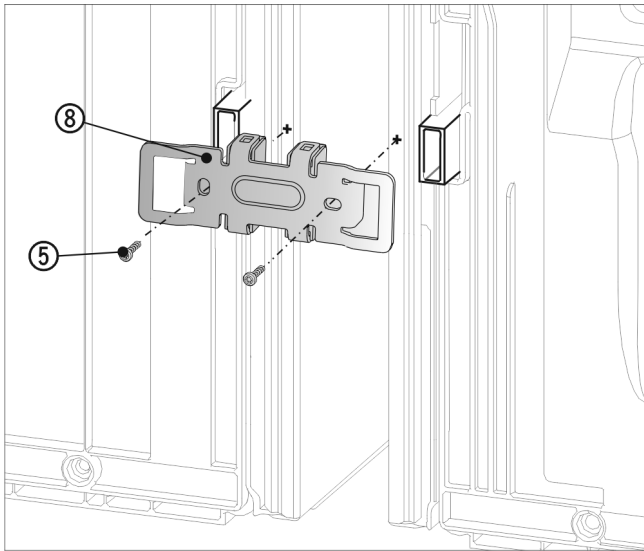

Fig. 24
- ▶ Slide the bracket Fig. 24 (8) on once more with the slots over the retainer for the wall spacers.
- ▶ Screw in tightly with the 2 screws Fig. 24 (5).